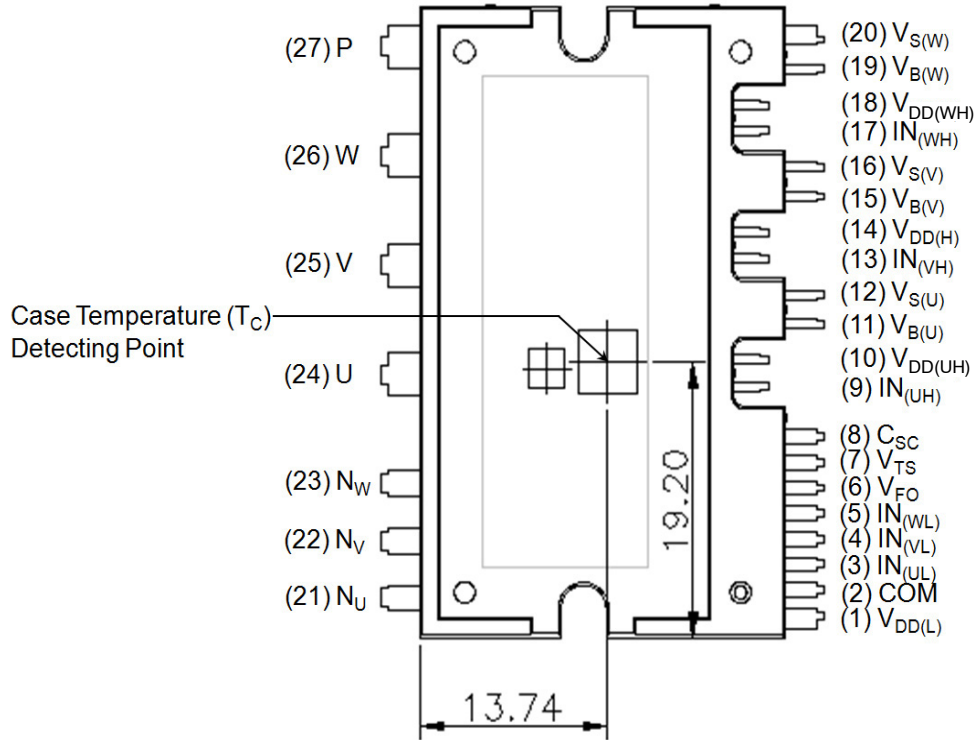

Figure 1. Top View
4. For the measurement point of case temperature (T_C), please refer to Figure 1. DBC discoloration and Picker Circle Printing allowed, please refer to application note AN–9190 (Impact of DBC Oxidation on SPM[®] Module Performance).